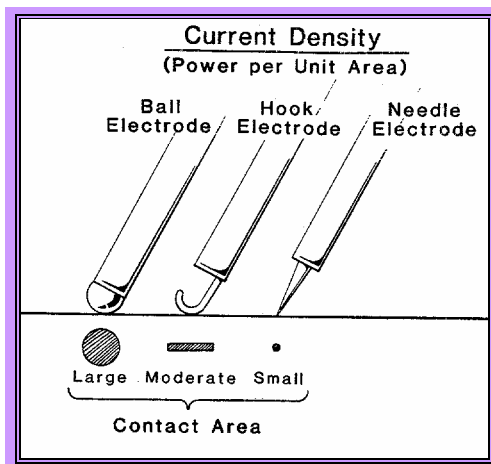

Fig 9
**The choice of electrode size, and how one applies it to tissue, affects the cutting and hemostatic effect as much or more so than the choice of "cut" and "coag" modes. (Fig 9)**
In laparoscopic use of ESU, power densities are varied by using different sizes and configurations of electrodes (Figure 9). A hook electrode, besides having a convenient geometry to handle tissue, has a moderate electrode size to allow hemostatic dissection. A finer needle point electrode will allow finer and cleaner incisions, but at some expense to hemostasis. Ball electrodes will be good for electro-desiccation and fulguration of oozing tissue beds. A spoon electrode, when brushed against tissue with it's narrow side, will allow clean dissection. By angling the spoon slightly so that more and more surface area is used, various degrees of hemostasis may be achieved while leaving the ESU in a "cut" setting.